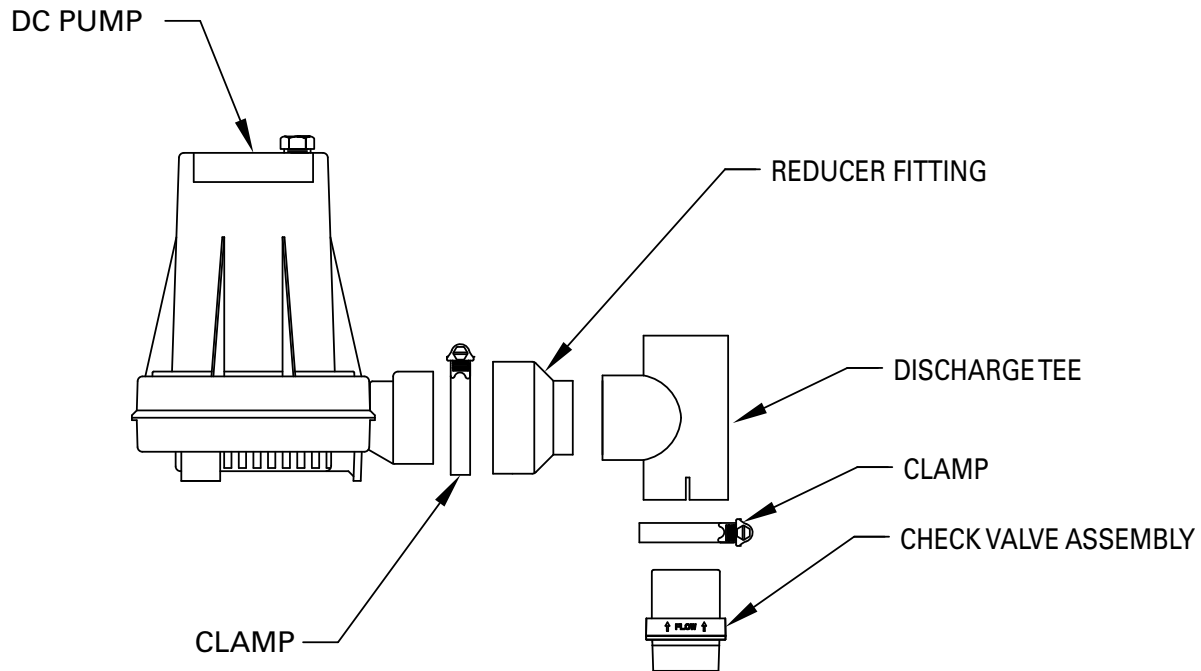

FIGURE 4
6. Solvent weld DC discharge reducer fitting to tee as shown in Figure 4. Then ensure o-ring is properly located on pump discharge. Slide DC pump into the fitting and tighten the hose clamp. Position the clamp's gear drive so that it will not interfere with the operation of the switch.
8. Determine the position of the DC pump and connect the pipe tee to the in-line check valve and tighten hose clamp. See Figure 4.